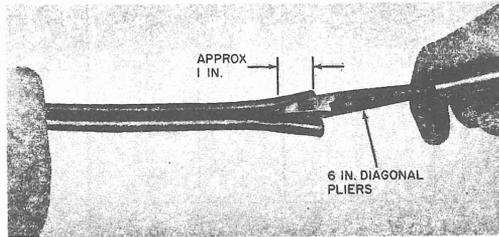

Fig. 16—Cutting Web With Diagonal Pliers
6.01 Prepare multiple pair ASW for termination in accordance with Fig. 16 through 19.